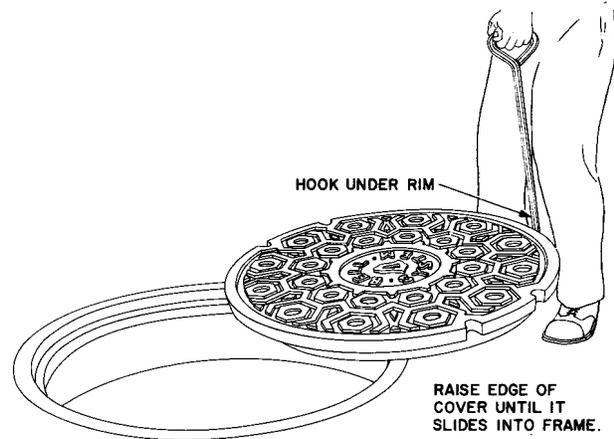

Fig. 20—Preparing to Slide Cover onto Seat
- (3) Change to the opposite side and repeat until the cover rests partially over the opening of the manhole.
- (4) Place the hook under the rim of the cover at the point farthest from the opening and lift until the cover slides onto its seat (Fig. 20).